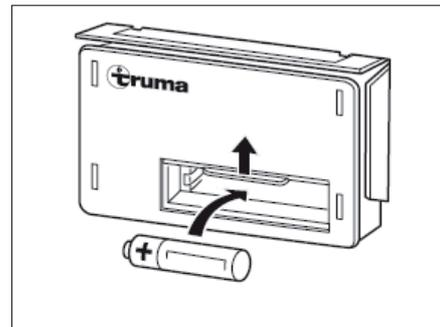

Fig. 110 Changing the batteries
- Slide the cover of the battery compartment at the automatic ignition (Fig. 110) upwards.
- Insert a new battery of the same type into the battery compartment of the automatic ignition, observing the correct polarity (+/-) (Fig. 110). Use only temperature-resistant (+70 °C) and leak-proof Mignon batteries.